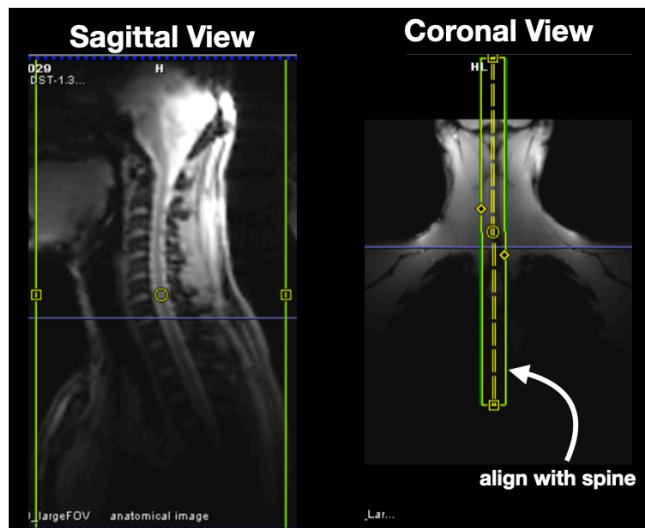

Figure 6. Positioning of Large FOV for DREAM scans.
- Position the Field of View (FOV) according to Figure 6. The center of the FOV should roughly correspond to where you put the isocentre. If the FOV in the FH direction for the imported protocol is too large for your coil, use the largest FOV possible in the FH direction for your coil.